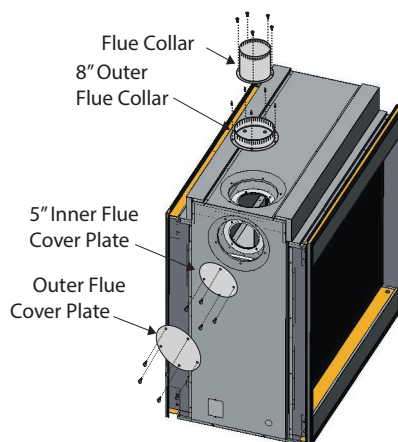

Figure 8. Flue cover and collar removal, Top Vented fireplace.
1. Remove the Side flue cover and gasket (5" and 8") on the flue outlet, as shown in Figure 8.
outlet, as shown in Figure 8.
- Fireplace must be converted to Rear Vent configuration prior to running vent, see Figure 8 and 8a.